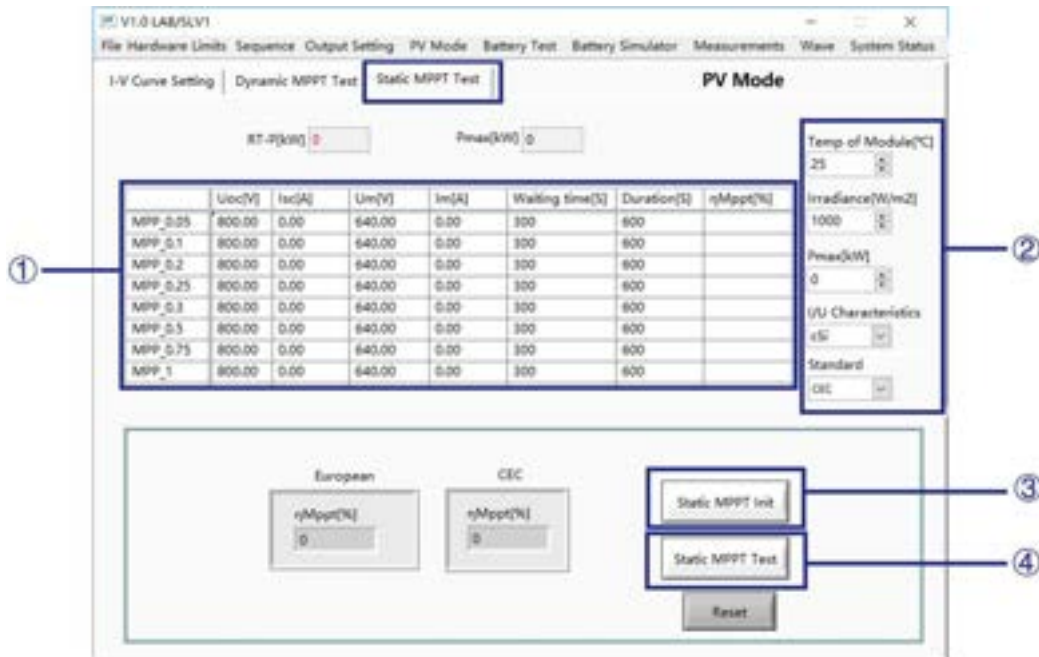

Figure 5-16 Static MPPT test
Set the temperature (Tamp), I/U characteristics (crystalline silicon/thin film mode), irradiance (Irradiance), Pmax and other parameters (Figure 5-16②), click the initialization button (Static MPPT Init) (Figure 5-16③), and finally click Static MPPT Test button (Static MPPT Test) (Figure 5-16④), the software will automatically calculate and display the real-time parameters during the test (Figure 5-16⑥). 5 minutes for each line and 10 minutes for the test. When the test is completed, the equipment will automatically shut down. When all tests are completed, the static maximum power point tracking efficiency η_{Mppt} will be calculated according to European standards and CEC standards. Click "Reset" to restore the data in the static efficiency test panel to the initial state.